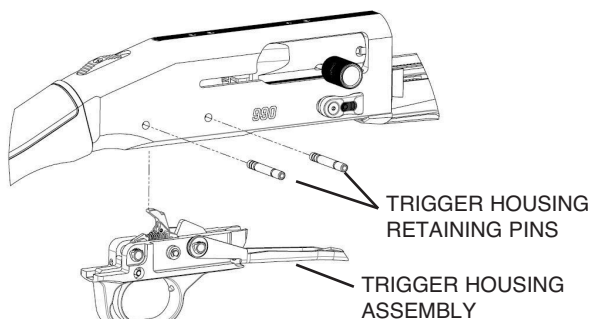

Figure 17
1. Insert the trigger housing assembly into the receiver and align the two trigger housing retaining pin holes (Figure 17).